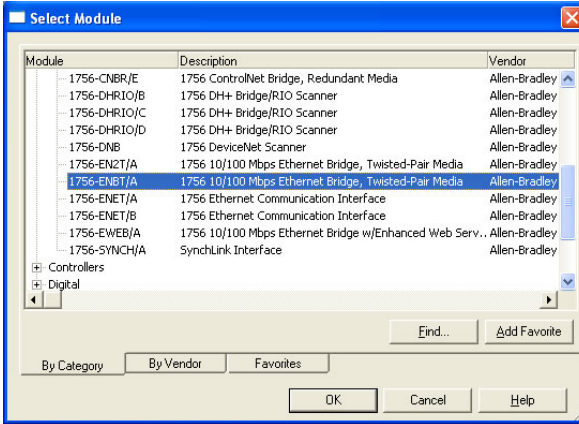

Figure 77: Adding a New 1756-ENBT/A Module
- 5) Under "Communications", select "1756-ENBT/A", and click OK. Refer to Figure 77.